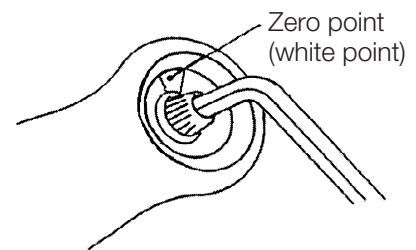

Fig. 4
3. The basic torque can be set in the range from 10 to 70 N·m by adjusting the zero point (white point) of the graduation adjusting part located on the end of the grip to the main scale inside the scale window. (See Figs. 4 and 5.)